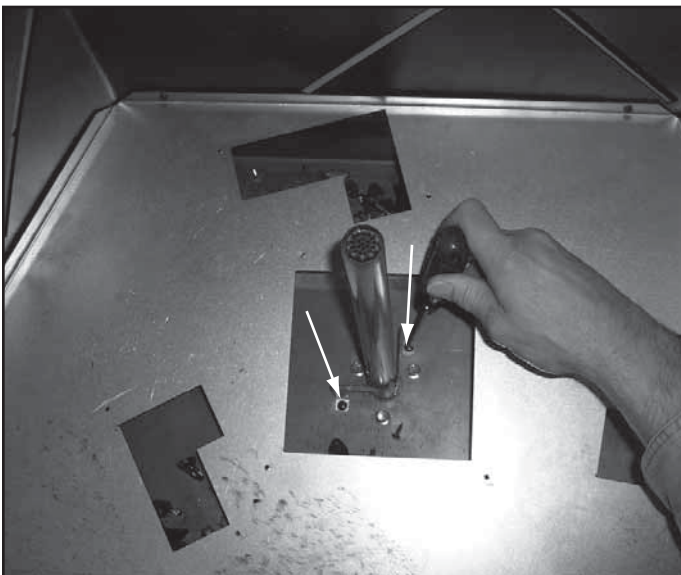

Figure 3.11 Remove Center Burner Tube
- Remove center burner tube by removing two screws. See Figure 3.11.